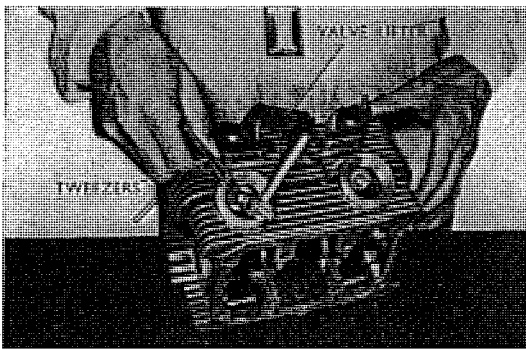

Fig. 3.34 Removing valve
2. Depress the valve lifter spring and remove the two valve cotter pins with long nose pliers or tweezers, the retainer valve spring from the head cover, and the valve from the combustion chamber. (Refer to Fig. 3.34)